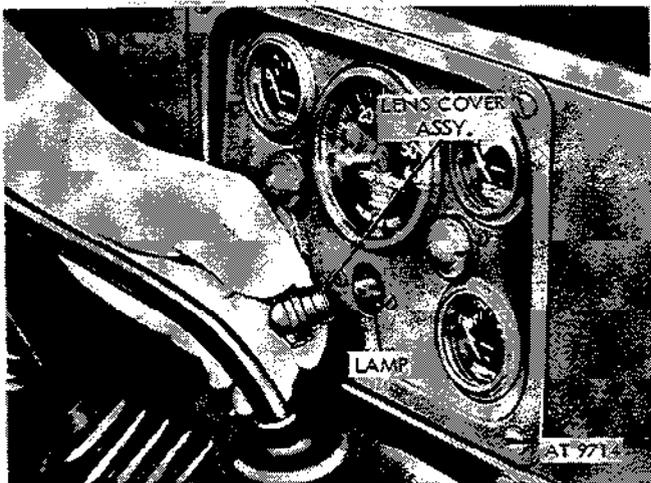

Figure 2-269. Unscrew lens. Push lamp in and turn to left to remove.
a. *Removal.* The location of instrument cluster lamps and lens is shown in figure 2-268. Remove lamps and lenses as shown in figure 2-269.
b. *Installation.* Install instrument cluster lamps and lens as shown in figures 2-269 and 2-268.